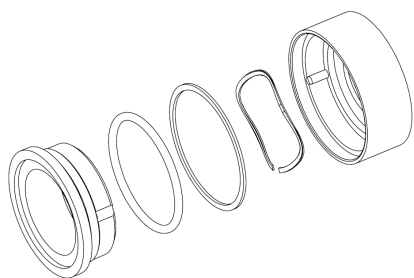

Figure 14
6. Assemble the rotating half of the seal. The order of assembly can be seen in figure 14. Insert the single seal spring into the seal driver. The single seal spring is smaller than the rotating double spring. Next insert the backup ring. The backup ring may need to be pushed in. Insert the single rotating seal o-ring then insert the single rotating seal. Be sure to line up the slots in the rotating seal with the pins in the seal driver.